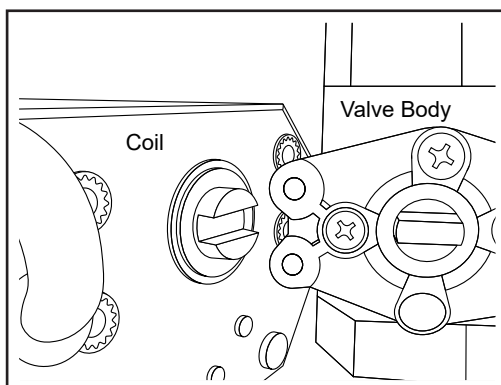

Fig. 65 - Remove coil from the valve body
2. Remove the coil from the valve body (see Fig. 65).